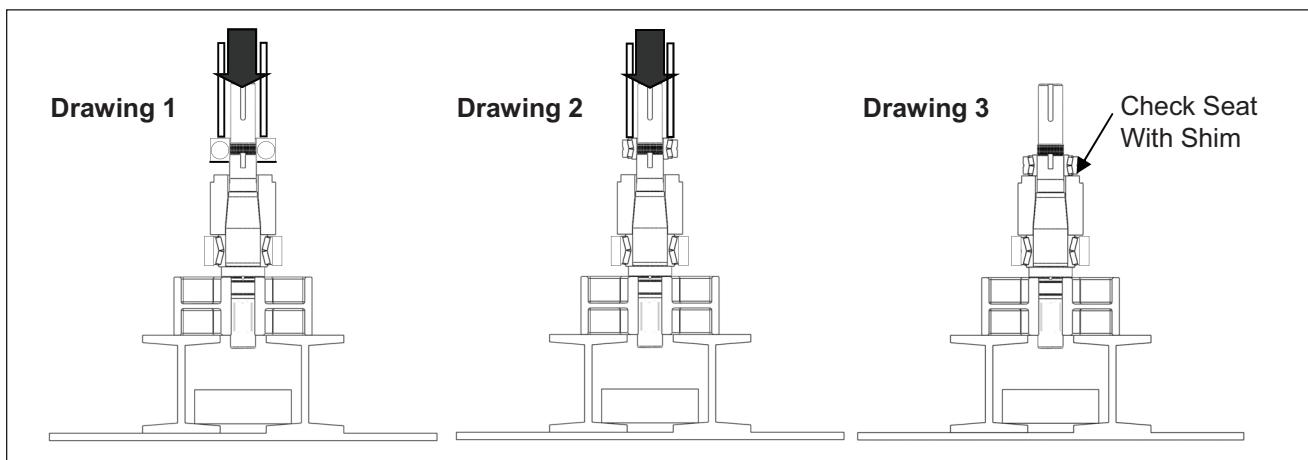

Figure 46. Pressing Rear Bearing onto Shaft
- For pump models with single ball bearings apply a light coat of lubricant on the shaft. Open the new rear bearing assembly and place it over the shaft above the bearing spacer with the shielded side of the bearing facing the spacer (*Figure 46, Drawing 1*). Press the bearing on by pressing only on the inner race.
- For pump models with tapered roller bearings, apply a light coat of lubricant on the shaft. Open the new rear bearing assembly and do not interchange any parts. Place the rear bearing over the shaft above the bearing spacer (*Figure 46, Drawing 2*). Reference Table 5 for the required force (in tons) needed to press the bearing onto the shaft. Using a sleeve that rests on the inner cone of the bearing and rides over the shaft, press the bearing on until it seats against the spacer.
Make sure the bearing is rested on the bearing spacer using a shim (*Figure 46, Drawing 3*).